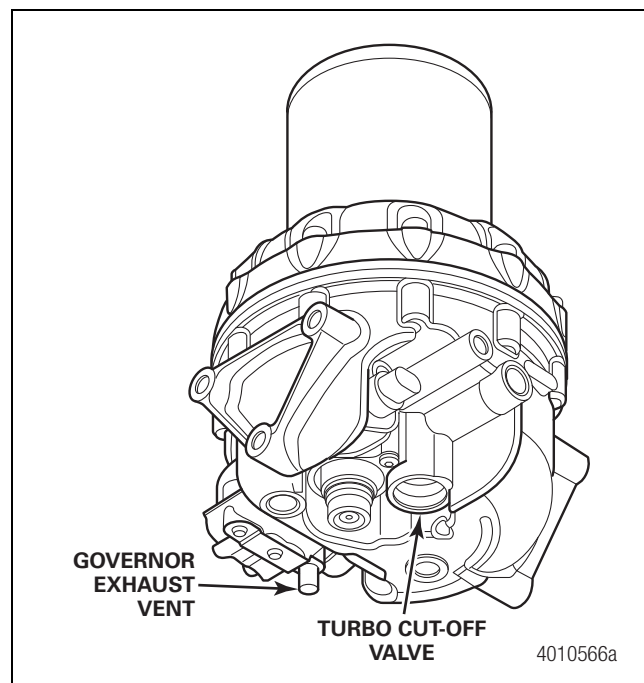

Figure 1
4. While the compressor is pumping, inspect for air coming out of the bottom of the air dryer. Figure 1.